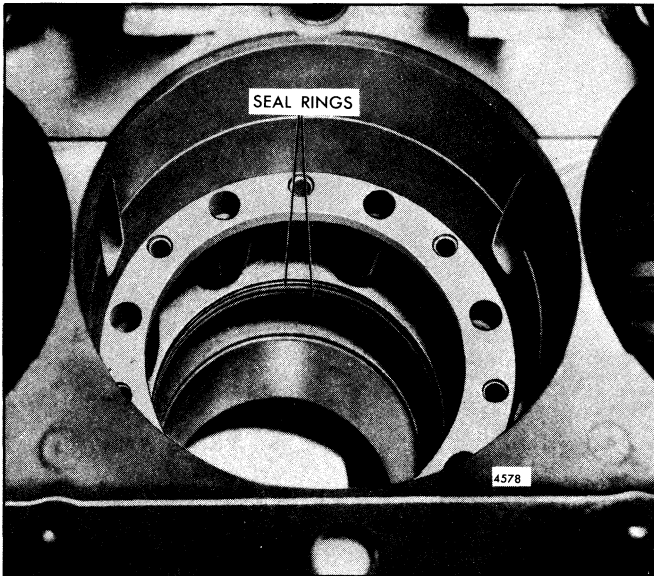

Fig. 6 - Location of Cylinder Block Bore Seal Rings
1. Make sure the seal ring grooves in the cylinder block bore are clean. Then, install a new seal ring in each groove (Fig. 6). The current type seal rings tend to stiffen and shrink at temperatures below 40°F (4°C). Keep the seal rings at room temperature (approximately 70°F or 21°C) prior to installation.